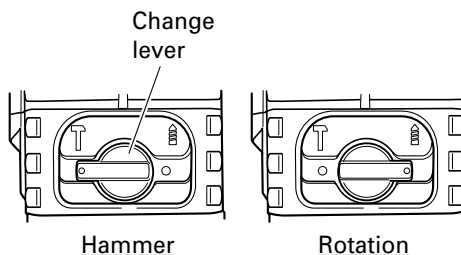

Fig. 9
6. HAMMER to ROTATION changeover (Fig. 9)
The change lever may not turn smoothly when changing from hammer drill mode to drill mode. (Fig. 9)